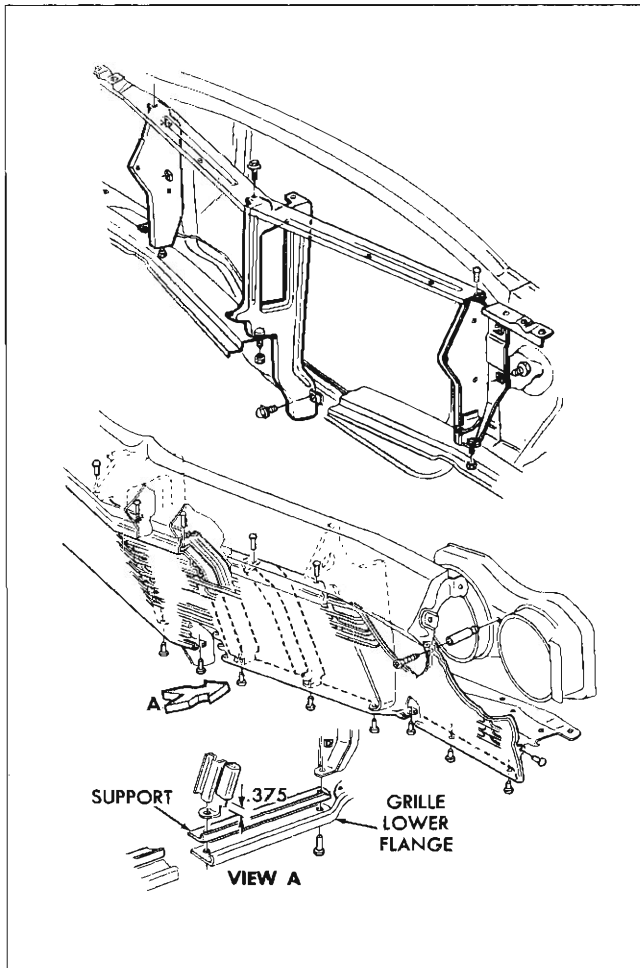

Fig 4—Grille Assembly—Chevrolet
**GRILLE ASSEMBLY—CHEVROLET (See Fig. 4)****Removal**